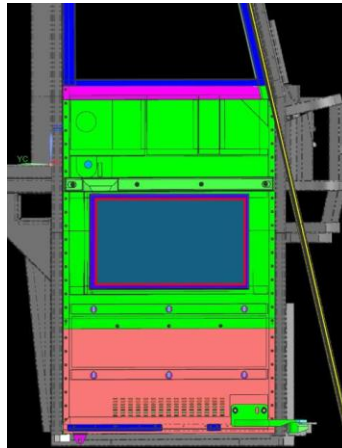

Figure 3: Cutting off the Sika Around Lower Window Perimeter
- 7) Hold the knife and carefully begin removing the Sika from one corner of the window, working your way around the window (highlighted red in Figure 3).